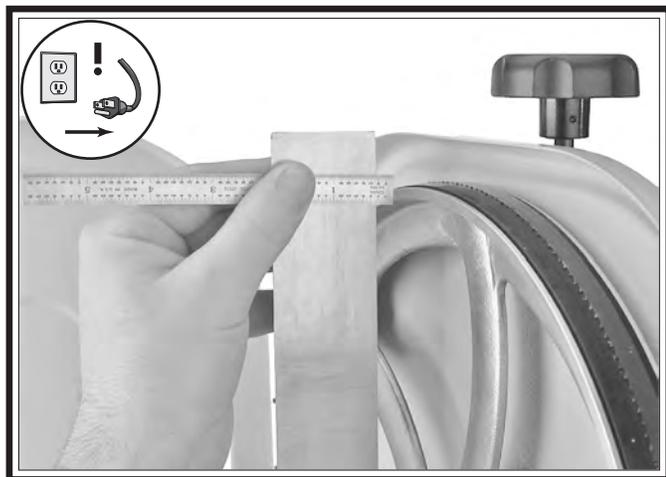

Figure 106. Generic example photo of measuring the distance to shim a wheel to make it coplanar with other wheel.
3. With coplanarity gauge touching both rims of wheel that does not need to be shimmed out, measure distance away from other wheel with a fine ruler (see **Figure 106**). The distance measured with ruler is distance this wheel must be shimmed.